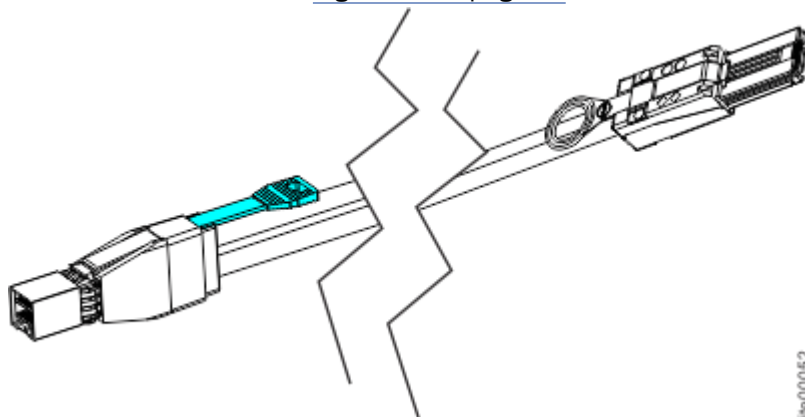

Figure 74. Mini SAS HD to Mini SAS cable
- Mini SAS HD to Mini SAS (Figure 74 on page 71)